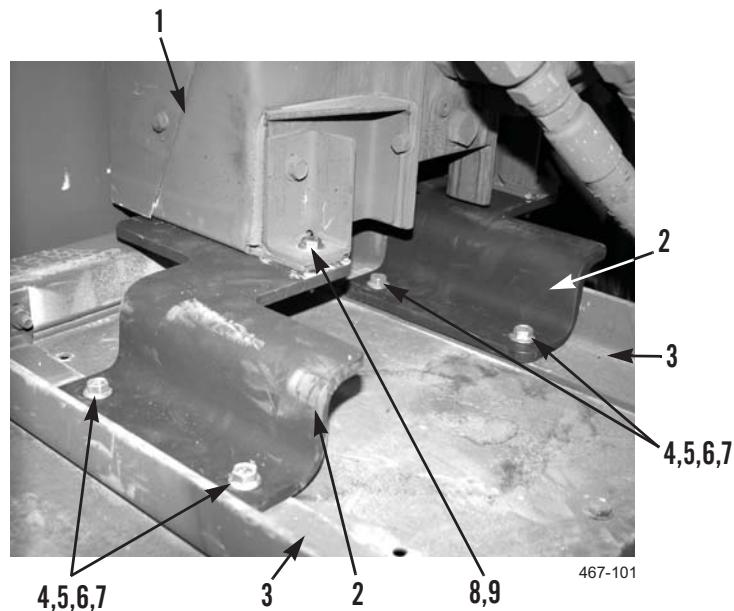

Figure 11. HEMTT Hydraulic Control Box Reinstallation.
30. Install two new brackets (Figure 11, Item 2), four bolts (Figure 11, Item 4), washers (Figure 11, Item 5), washers (Figure 11, Item 6), and locknuts (Figure 11, Item 7) on support brackets (Figure 11, Item 3).
31. Use lifting device to position hydraulic control box (Figure 11, Item 1) on new brackets (Figure 11, Item 2) and secure with four bolts (Figure 11, Item 9), and nuts (Figure 11, Item 8).